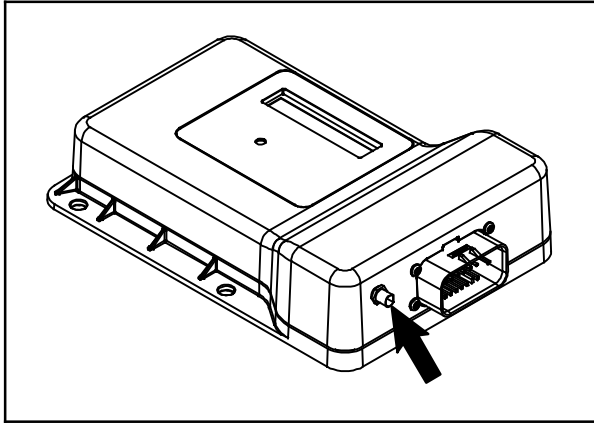

FIG. 17
24. Connect the antenna (6) wire to the telemetry control box (1). (Fig. 17)